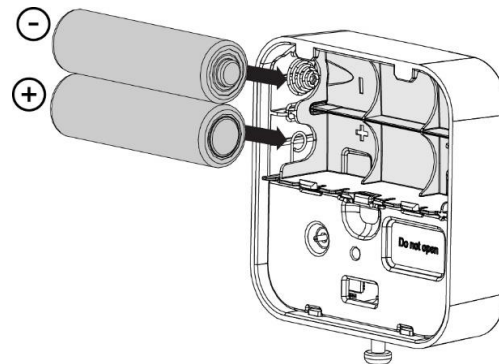

Figure 3
4. Activate the detector as instructed in Figure 3 (Battery insertion) and wait until Red and Green LEDs stop blinking.